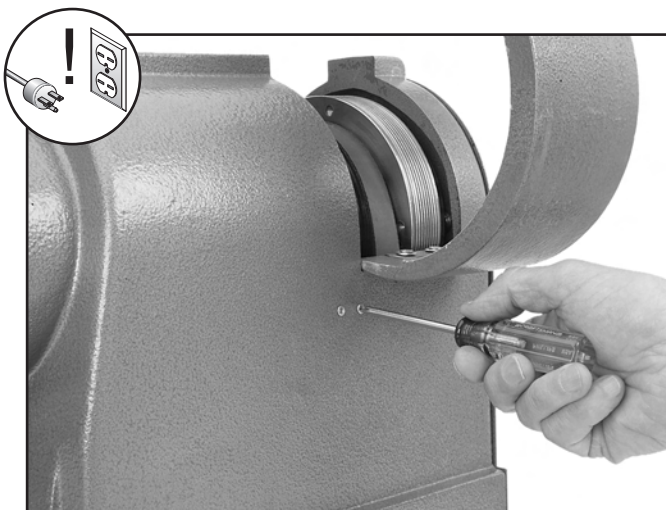

Figure 61. Removing speed sensor screws.
7. Remove the Phillips head screws that secure the speed sensor (**Figure 61**), then reach inside the headstock and rest the sensor cord over the internal crossbar, or bring it outside the headstock so it is out of the way during the following steps.